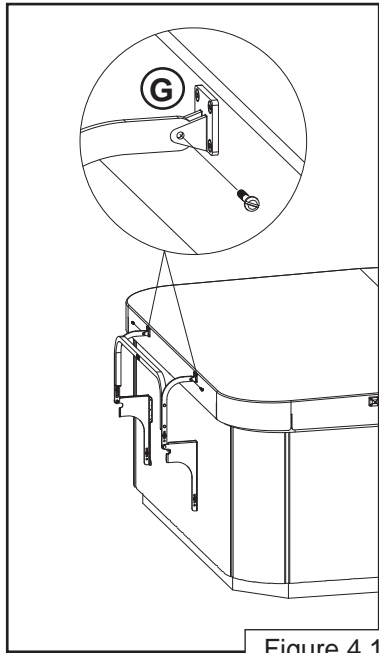

Figure 4.1
1. Unscrew Pan Head Screws attached to the Rear Hinges (Figure 4.1 G).
Align both Pivot Assemblies (attached to the Crosslink assembly) inside the Rear Hinges and fasten using the two Pan Head Screws (Figure 4.1).